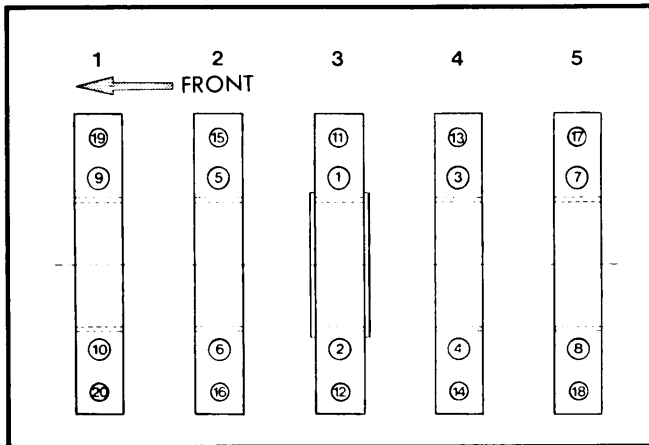

**Fig. 5 Location for Measuring Main Bearing Bore Diameter**
1) Mount main bearing cap to cylinder block (without bearings in place). Measure inside diameter at three locations. See Fig. 5. Be sure cap is properly positioned when taking reading. Offset bearing caps can be moved into center position by lightly tapping them with a plastic hammer.